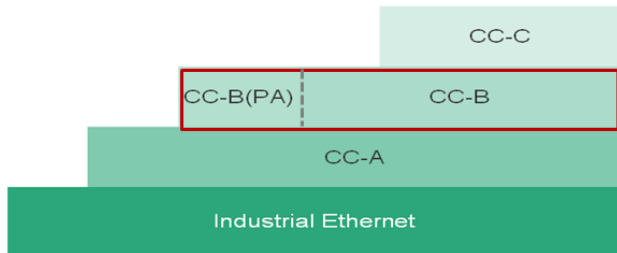

Figure 1: Structure of the Conformance Classes (CC) of PROFINET
The functional scope of PROFINET can be scaled, according to multiple layered Conformance Classes (CC) each building on the previous, for adaptation to different use cases (Figure 1). These combine minimum application-oriented properties: CC-A includes the basic functions and is, for example, used in building automation. CC-B expands the functional scope to include network diagnostics and topology information; CC-B(PA) adds functions relevant for process automation such as redundancy and Configuration in Run (configuration changes during operation). CC-C further expands the functions for implementation of IRT (Isochronous Real Time) communication and is thus the basis for clock-synchronized applications. A detailed description of the CCs is contained in the PI document "PROFINET Conformance Classes" [7.041/042 d/e].